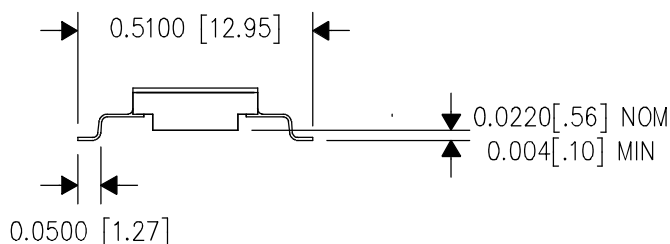
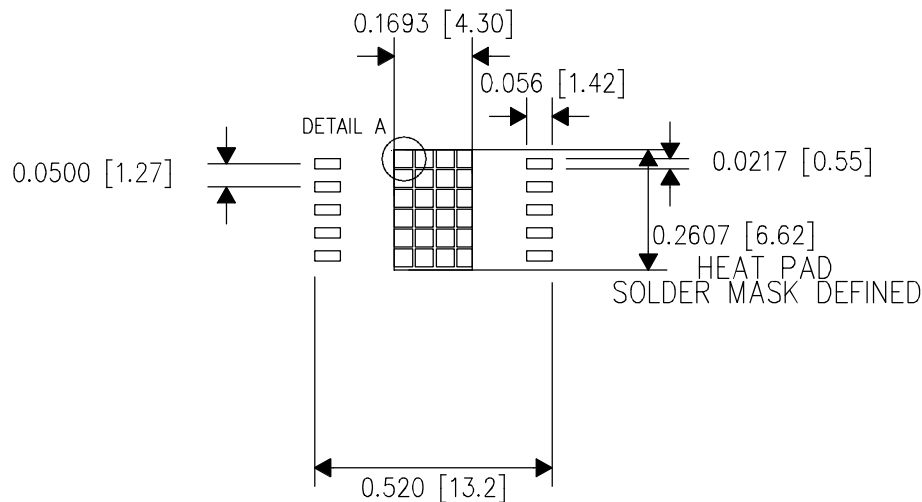
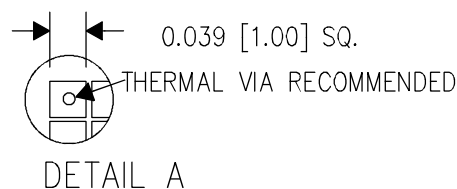

Figure 29. Typical HKU Package With Leads Form
Figure 30. Typical Thermal Vias Footprint
Figure 31. Typical Thermal Vias Details
- The exposed thermal vias of the HKU package should be connected to a wide ground plane for effective heat dissipation. Refer to Figure 29, Figure 30, and Figure 31 for the typical footprint of the HKU package.